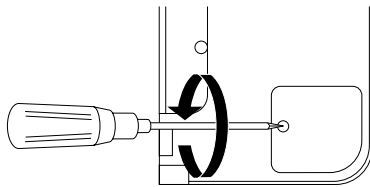

Figure 4
2. Loosen the screw of the small battery compartment cover on the back of the unit, and remove the back-up battery compartment cover. (Figure 4)